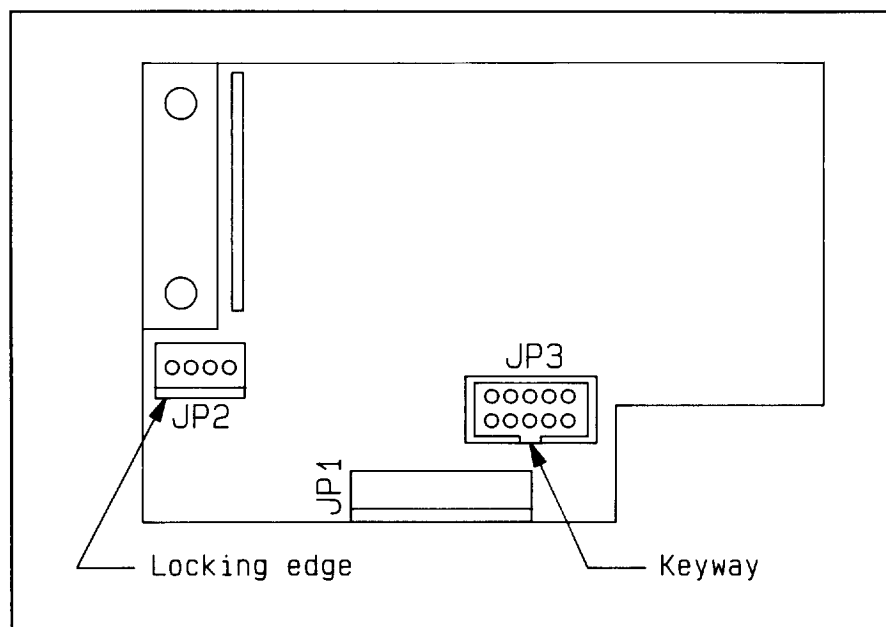

Figure 2 Location of Connectors JP2 and JP3 on 8751A
5. Attach the 4-wire audio cable connector to JP2 and the 10-wire ribbon cable connector to JP3 on the module. Connectors JP2 and JP3 are polarized meaning that the mating plugs can only be plugged in one way. Refer to Figure 2.